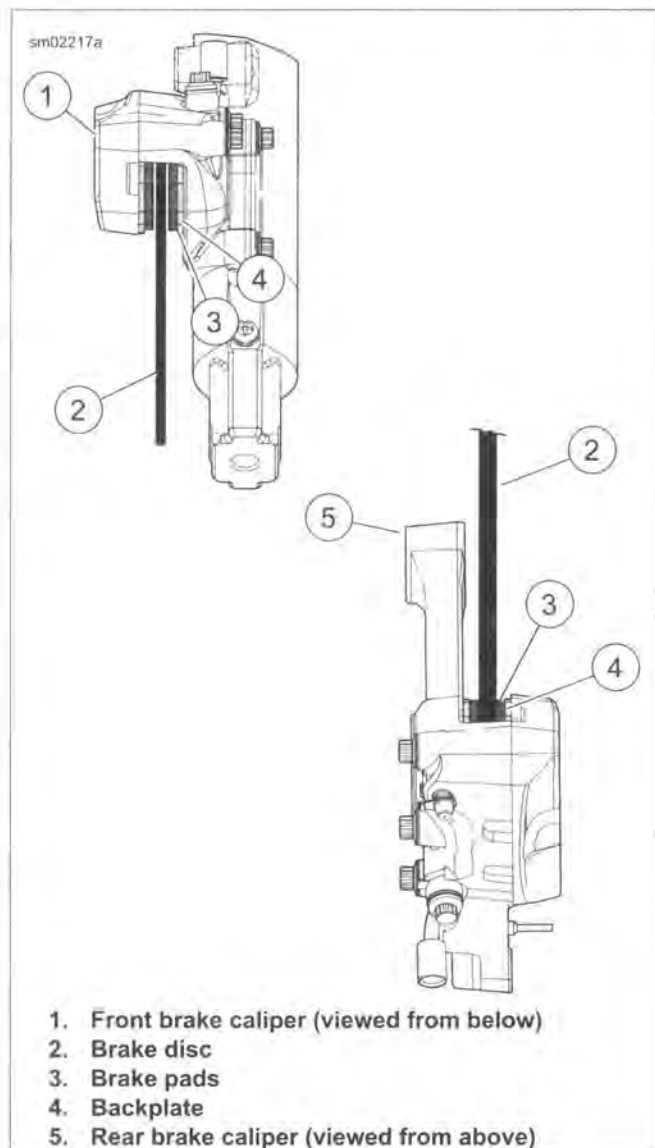

Figure 1-31. Brake Pad Inspection
See Figure 1-31. Replace brake pads (3) if brake pad friction material on either the front or rear caliper is worn to 0.04 in (1.02 mm) or less above the backing plate (4). Always replace both pads in a caliper as a set. See 1.15 BRAKE PADS AND DISCS, Brake Pad Replacement.